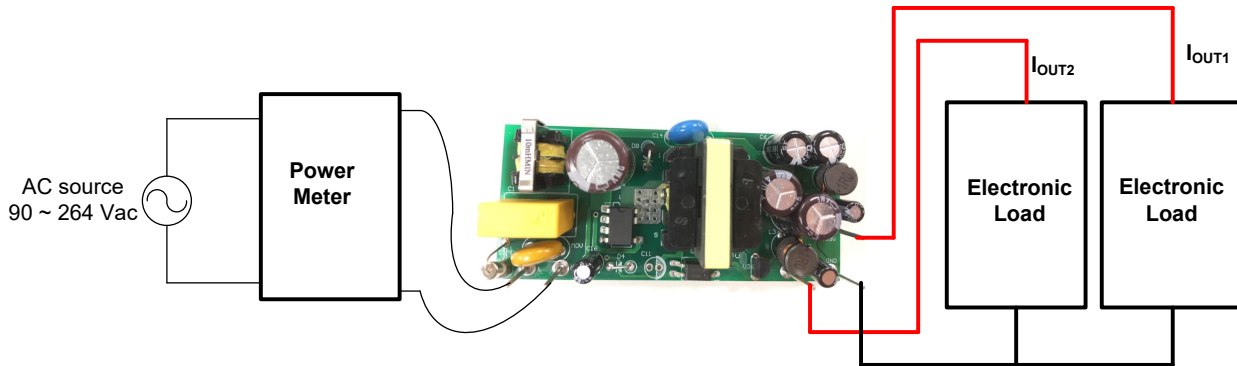

Figure 1. Test setup
1. Connect the test setup as shown at Figure 1.